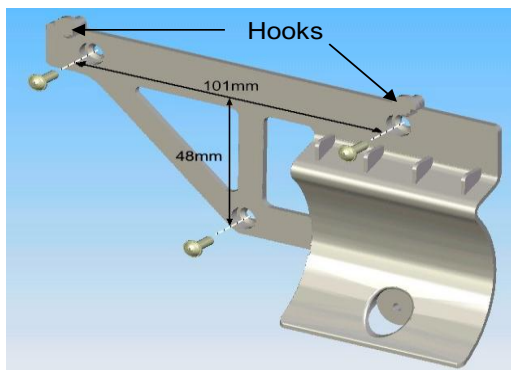

Figure 4: Bracket Mounting
1. Mount the CTR bracket to a proper location in the driver cabin with three screws, as shown in Figure 4.
2. Hang the CTR on the two mounted bracket hooks, as shown in Figure 4.